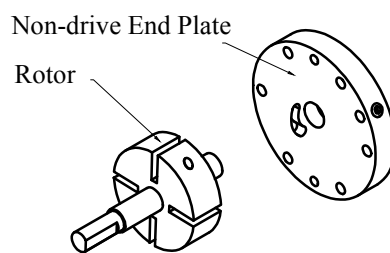

Fig. 7
6. Draw out the rotor and remove non-drive end plate. Refer to fig. 7.